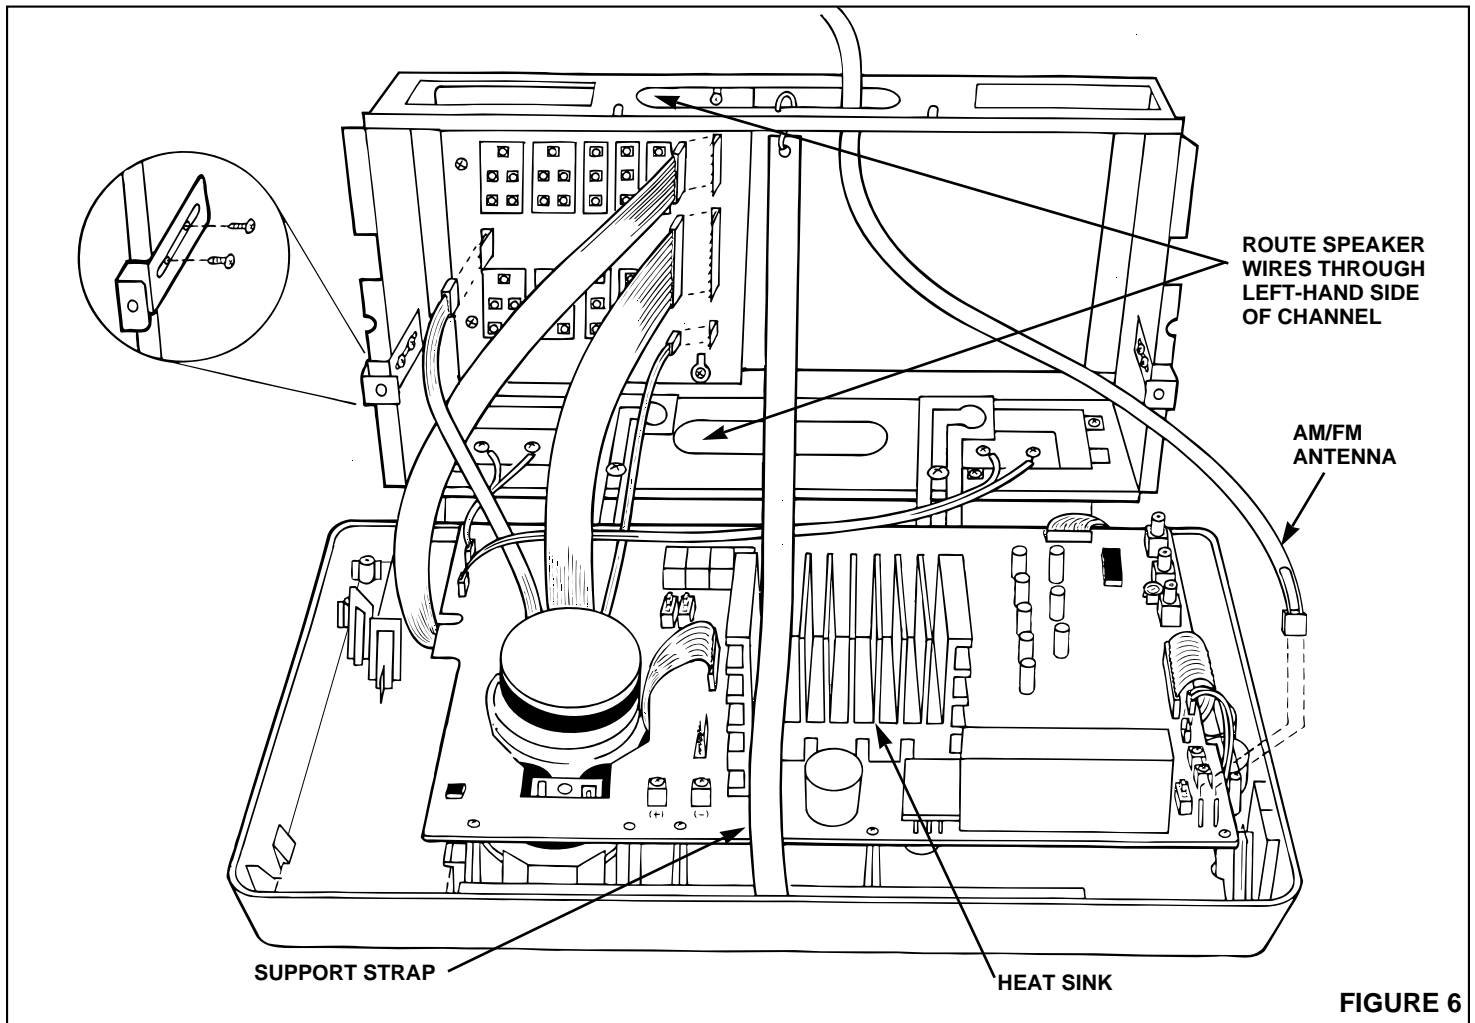

FIGURE 6
2. Refer to Figure 6. When routing speaker wires through rough-in, run wires through the **LEFT-HAND** side of the upper and/or lower wiring channels.
1. Refer to Figure 6. Use two (2) no. 6 x $\frac{3}{8}$ " screws to attach mounting brackets to rough-in frame. **Using bottom set holes, make sure brackets are flush to wall or rough-in and screws are tight.**
6. Refer to Figure 6. Attach support strap to rough-in by attaching onto oblong hole in top of rough-in frame.